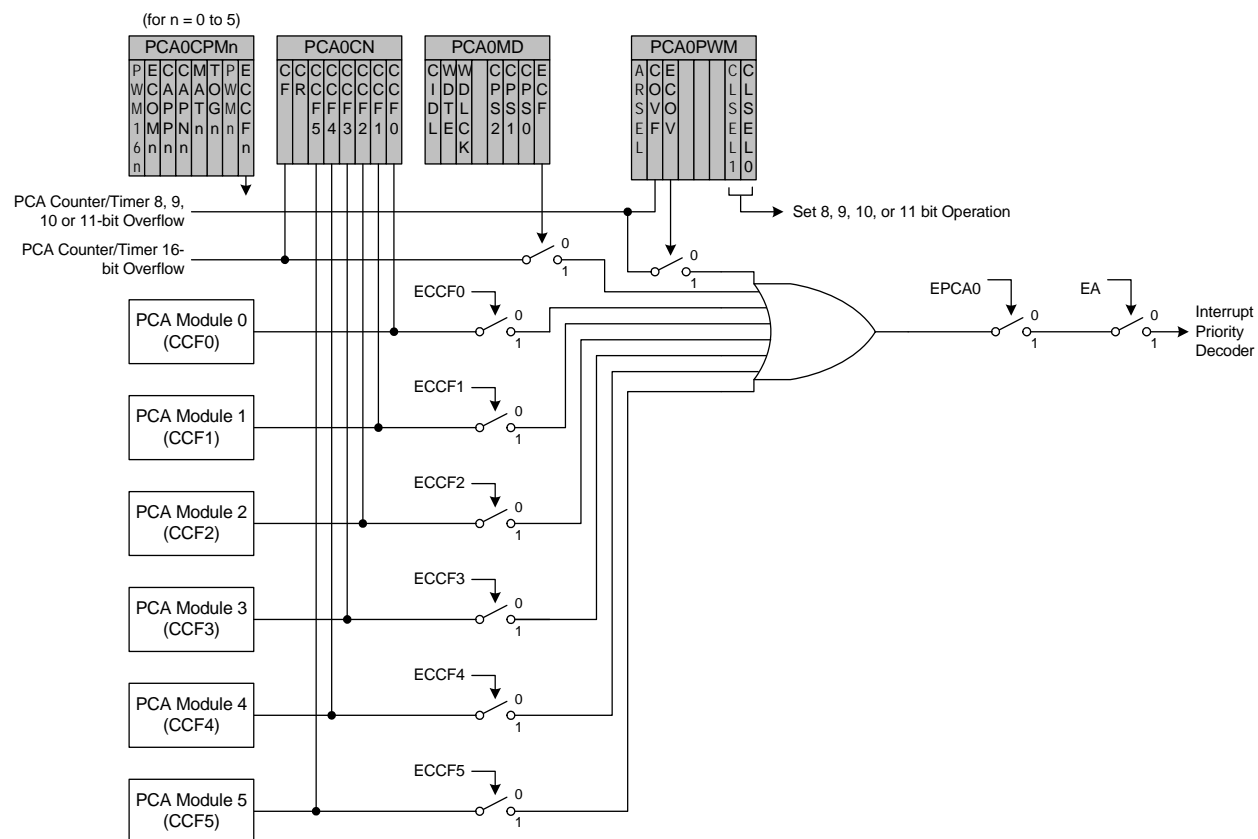

Figure 26.3. PCA Interrupt Block Diagram
Figure 26.3 shows a diagram of the PCA interrupt tree. There are eight independent event flags that can be used to generate a PCA0 interrupt. They are: the main PCA counter overflow flag (CF), which is set upon a 16-bit overflow of the PCA0 counter, an intermediate overflow flag (COVF), which can be set on an overflow from the 8th, 9th, 10th, or 11th bit of the PCA0 counter, and the individual flags for each PCA channel (CCF0, CCF1, CCF2, CCF3, CCF4, and CCF5), which are set according to the operation mode of that module. These event flags are always set when the trigger condition occurs. Each of these flags can be individually selected to generate a PCA0 interrupt, using the corresponding interrupt enable flag (ECF for CF, ECOV for COVF, and ECCFn for each CCFn). PCA0 interrupts must be globally enabled before any individual interrupt sources are recognized by the processor. PCA0 interrupts are globally enabled by setting the EA bit and the EPCA0 bit to logic 1.